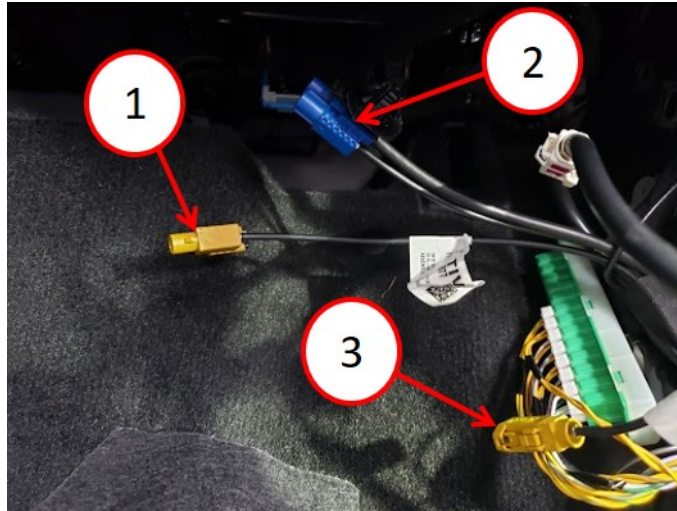

Fig. 5
9. Plug both the yellow male and female connectors together (Fig. 5) .
10. The leftover cable from the Y342A (**Blue Connector**) wire (Fig. 5) in Step 4, should be taped back and secured to prevent noise.